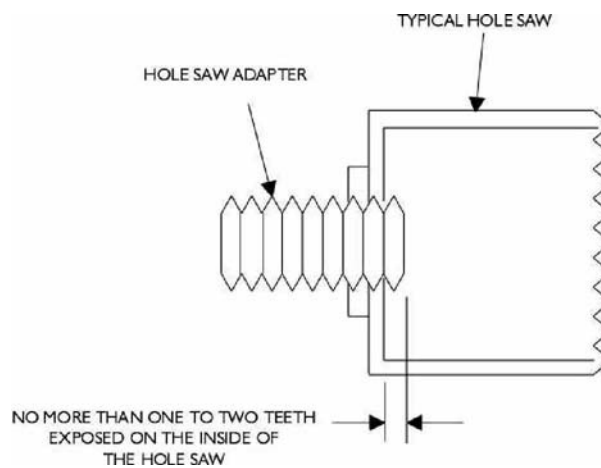

Figure 4. Hole saw mounting.
5. Make sure that no more than one or two threads are showing on the inside of the hole saw. See Figure 4.